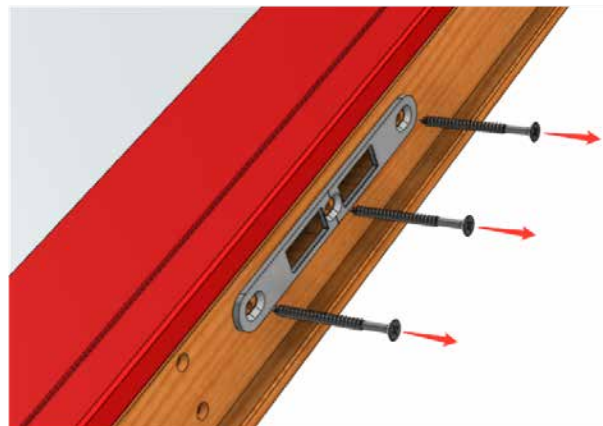

Fig BPT 2
- Re-apply the strike plate using the original screws that were removed in Fig. BPT 2.